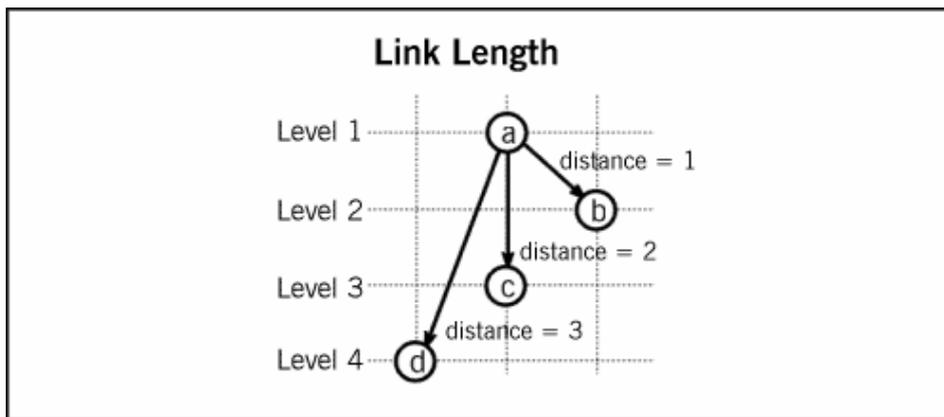

Figure 144: Schematic representation - Level length
- Link length:** By providing an integer value  $n$  for this parameter you can define how many layers  $(n-1)$  should be spanned by an instance of this class (see fig. 144). If instances of different relation classes meet at an object, the maximum number of layers is calculated.